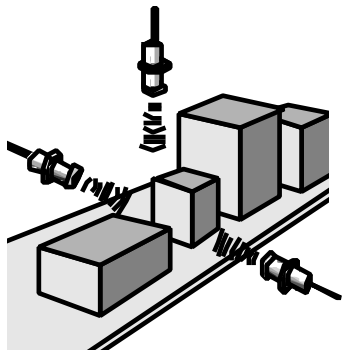

Fig. 5: Possible application: conveyor belt with measurement of width and height
- Very precise distances or thicknesses can be measured by combining the controller with the appropriate wms sensors (e.g. wms-25/RT/HV M18, see Fig. 5).